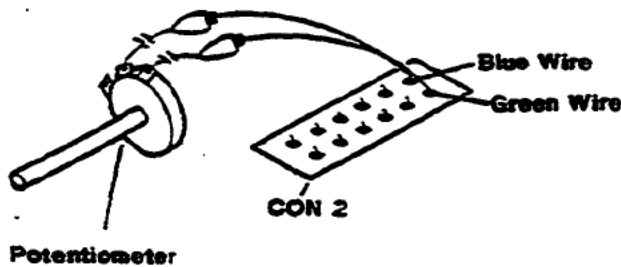

Figure 5-7. Water Level Probe Test Connection
4. With the probe disconnected, connect the potentiometer between the common (green) wire and the blue wire that leads back to CON 2 (see Figure 5-7).